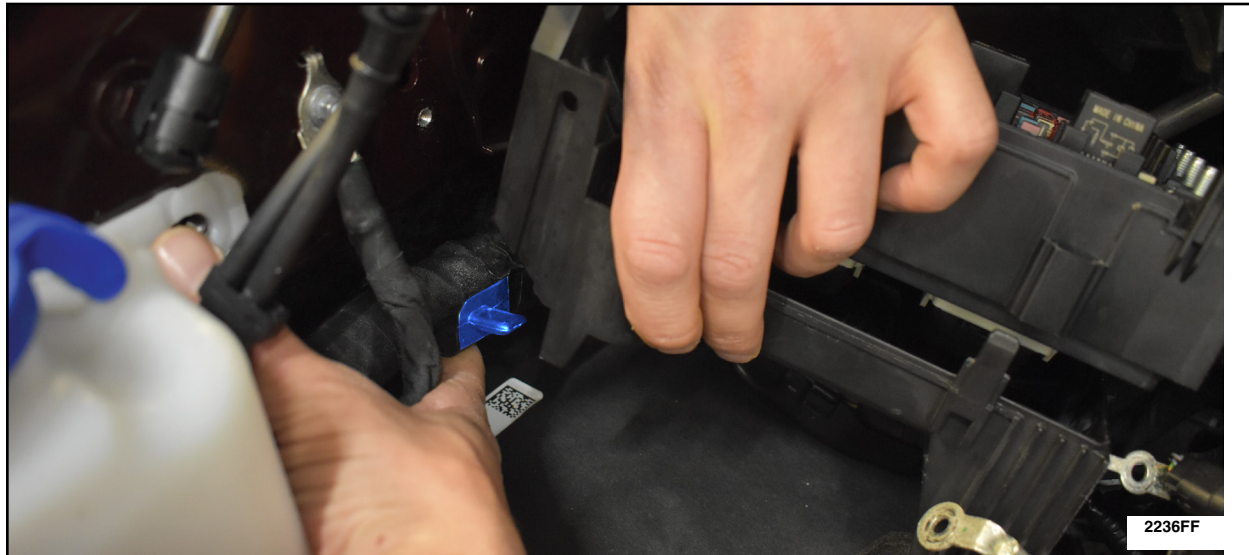

FIGURE 11
11. Release the 2 harness retainers from underneath the lower BJB. See Figure 11.